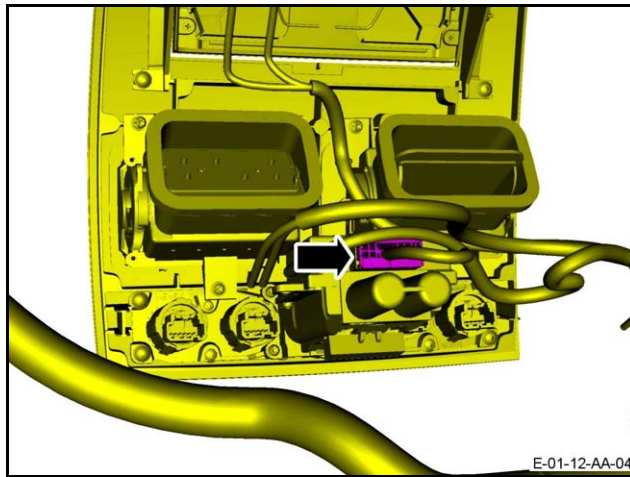

Figure 7
10. Connect the electrical connector to ignition start/stop switch (refer to Figure 7).